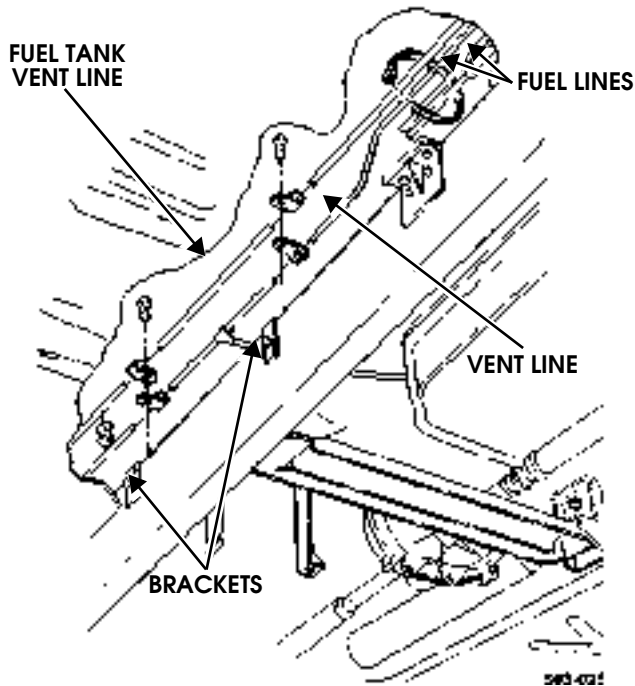

Figure 3-37: Fuel Tank Vent Line Locations (Typical)
2. Remove clip and fuel tank vent line hose from vent line (Figure 3-37).
2. Secure vent line to fuel lines with new tie strap (Figure 3-37).
The fuel tank vent filter is located just above the surge tank at the passenger side of the engine compartment (Figure 3-37).